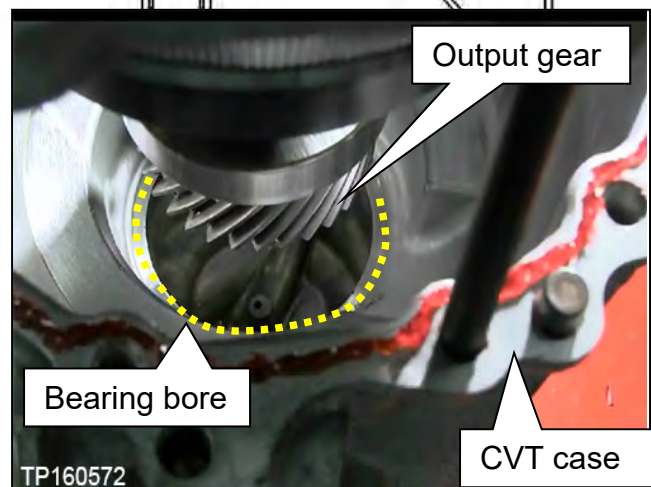

Figure 109
- Look into the bearing bore to confirm the output gear is centered (Figure 109).